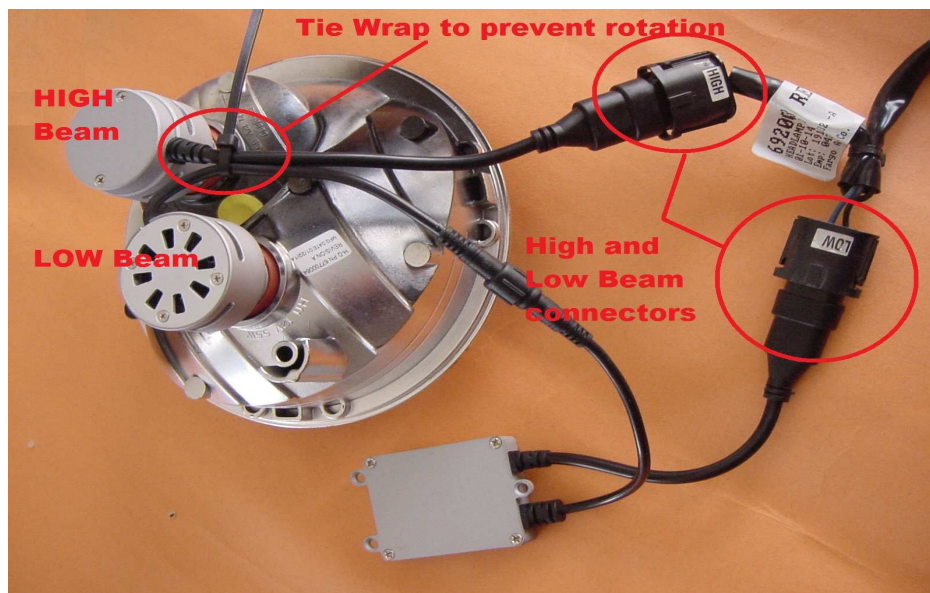

Figure 5
- 6). Once both LED bulbs are properly aligned and installed. The final assembly should look like the image below, Figure 5. Note that you must install Tie wrap as seen in the image to prevent bulbs from rotating due to vibrations from the motorcycle during operation. Also connect both the HIGH and LOW beam connectors to each bulb. Connectors are marked HIGH and LOW.